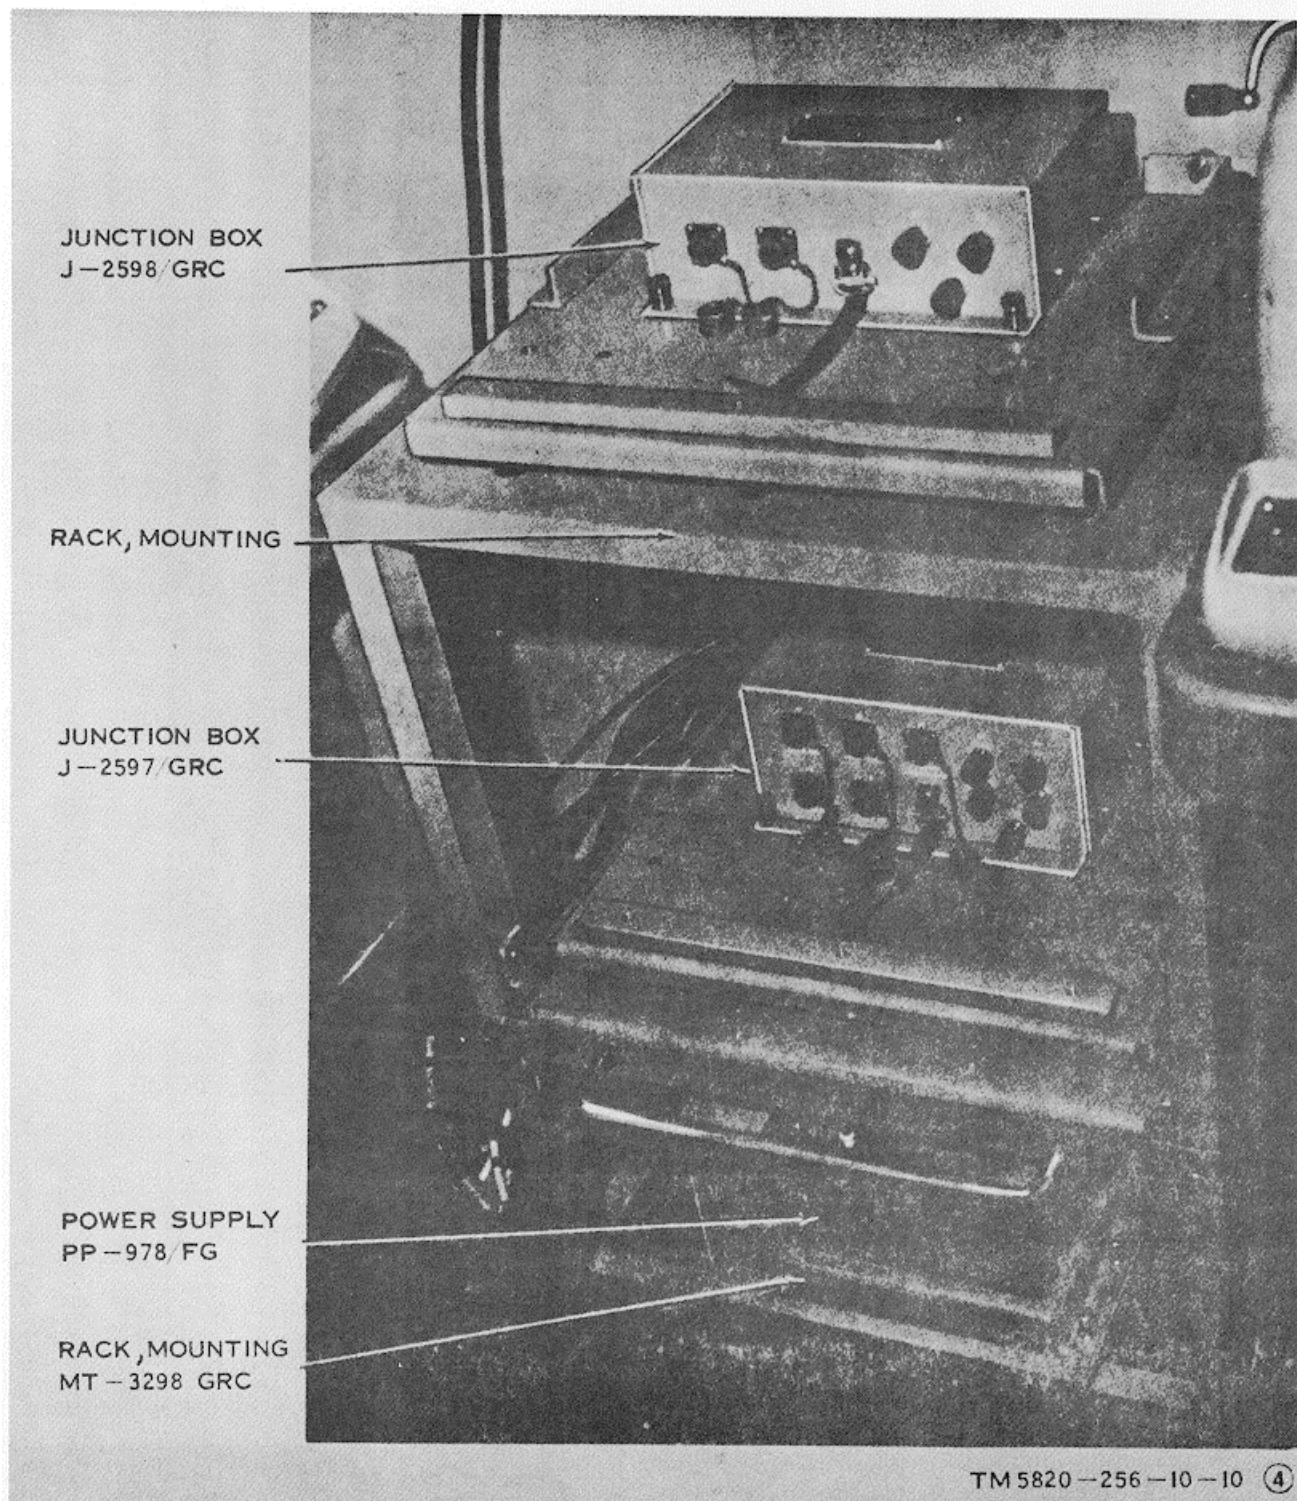

Figure 1-8. Rack mounting equipment
1-24. Junction Box J-2597/GRC (fig. 1-8)
1-25. Junction Box J-2598/GRC (fig. 1-8)
e. *Rack, Mounting MT-3298/GRC* (fig. 1-8). Rack, Mounting MT-3298/GRC is a metal rack designed for holding Power Supply PP-978/FG when it is mounted in the equipment rack. Jacks marked AC IN and DC OUT are provided on the rack.